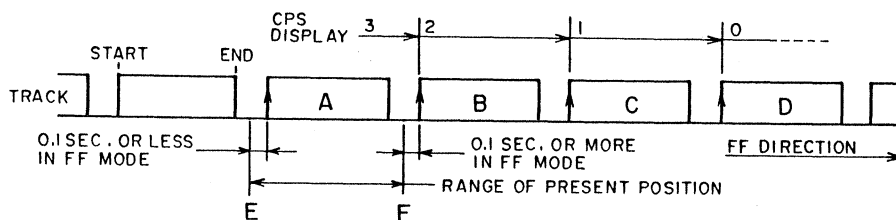

Fig.8-2 CPSFF Example
In the CPSFF mode the start of each track is detected, and the CPS counter is reduced by one each time. However, no track starts are detected within the first 0.1 seconds after the start of CPSFF. In addition, if CPSFF is started from the middle of a track, that track is not counted. In figure 8-2 the current position is between E and F, and if the third track (D) is selected, the CPSFF mode will detect each track start, and